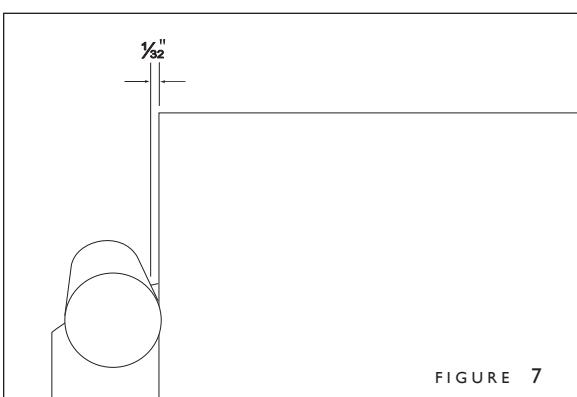

FIGURE 7
1. Check paper stop. It should be $1/32"$ from the edge of the paper (Fig. 7). Adjust if necessary (see Section VI, page 8).